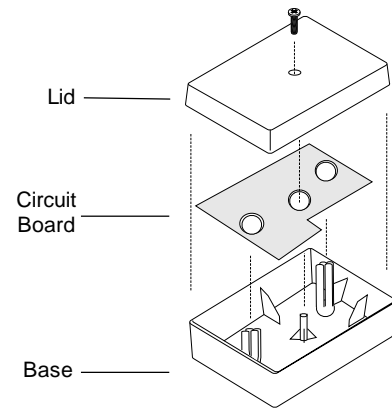

Figure 1. Exploded View
1. Remove the lid to open the unit. See Figure 1.